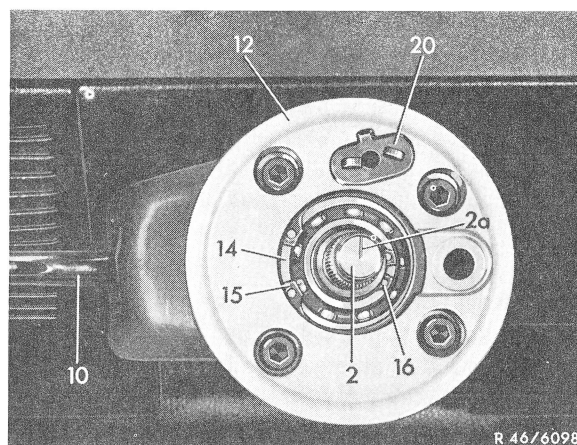

Fig. 2
4 Disconnect both cables of contact carbon (20) on combination switch (10) (Fig. 2).
5 Unscrew hexagon socket screws from jacket tube and pull steering spindle (2) together with bearing body (12) in upward direction out of jacket tube (Fig. 2).